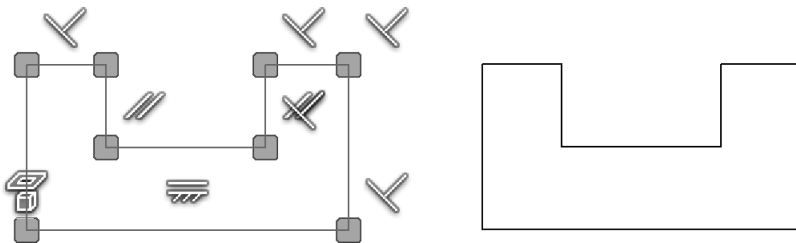

Figure 2.32
- 12** Figure 2.32 left shows the sketch constraints and the image on the right without the constraints.